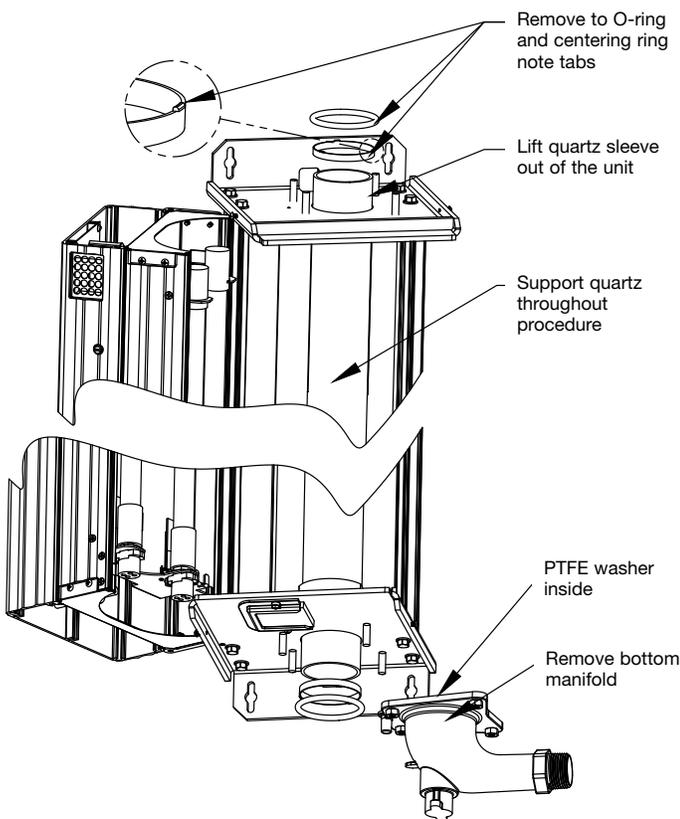

Figure 7-7
4. If the quartz sleeve is still not clean, it requires replacement. This is done by removing the bottom manifold (see Figure 7.7). Replacing a quartz sleeve is easier when the unit is placed on a horizontal surface – removing the unit from the wall to work on a bench is recommended, especially for the UV-COM C403 models.
9. Replace the bottom manifold (see Fig. 7.7) by installing the four nuts in an alternating pattern (top left, bottom right, bottom left, then top right). Check again for polytetrafluoroethylene (PTFE) washer.